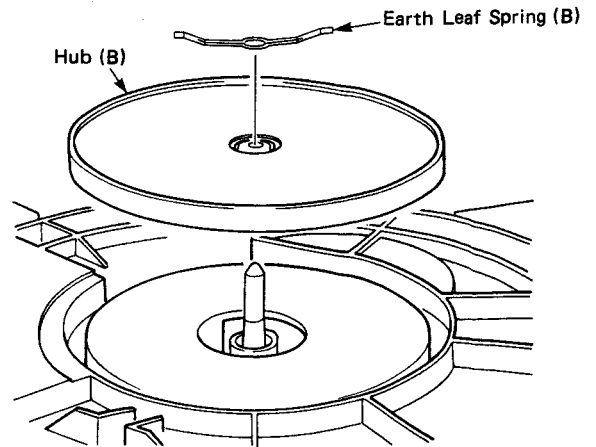

Fig. 3
- a. Remove the Earth Leaf Spring (B) in Fig. 3 and then remove the Hub (B).